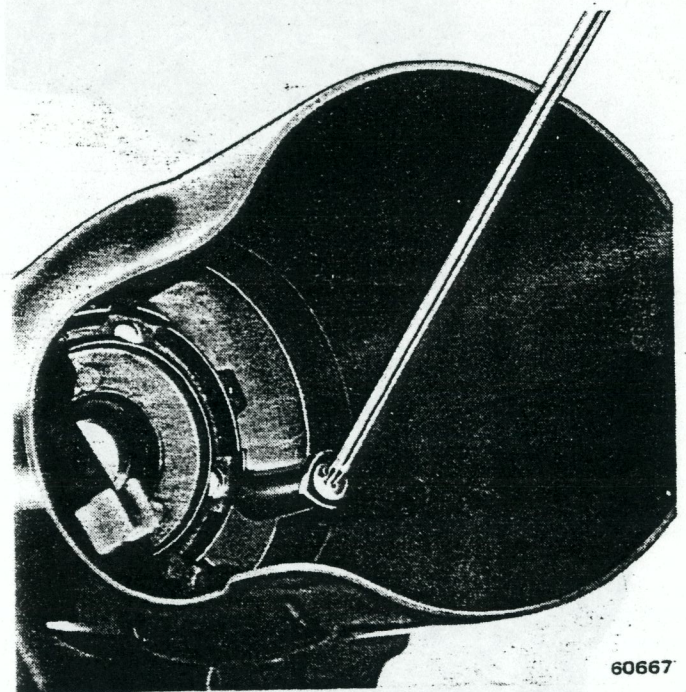

Fig. 2J-12 Removing Shroud From Housing.
- (25) Remove rack preload spring (fig. 2J-15).